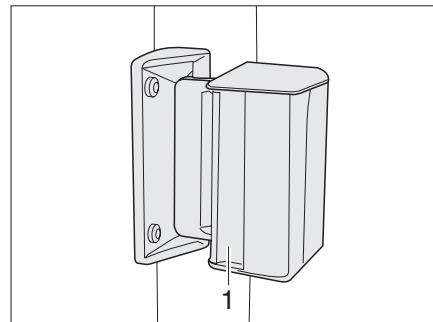

Fig. 36 Sliding window
- ▶ Press the handle (Fig. 36,1) and push or pull it forwards or backwards at the same time.